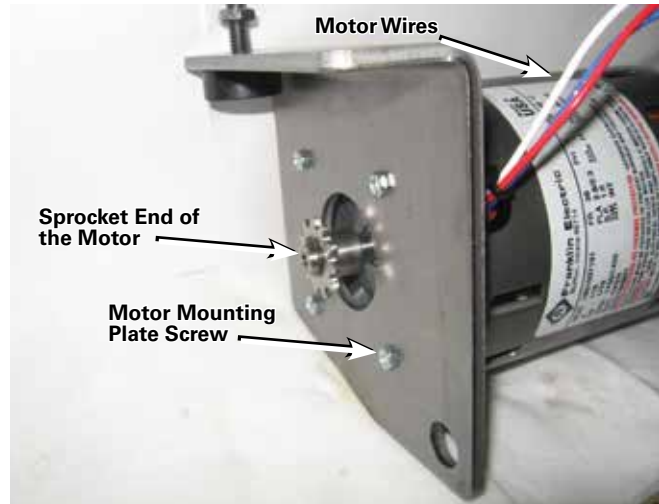

Figure 116. Motor mounting plate.
- Use a 1/4" socket on a ratchet to attach the motor mounting plate to the new motor using the new motor mounting plate screws provided in the motor replacement kit. Do not fully tighten. Make sure the motor wires are extending out of the top right of the motor when looking at the motor from the sprocket end. Refer to Figure 116. Using a torque wrench, now tighten the motor plate mounting screws to 18–20 lb-ins (2.0–2.2 Nm).